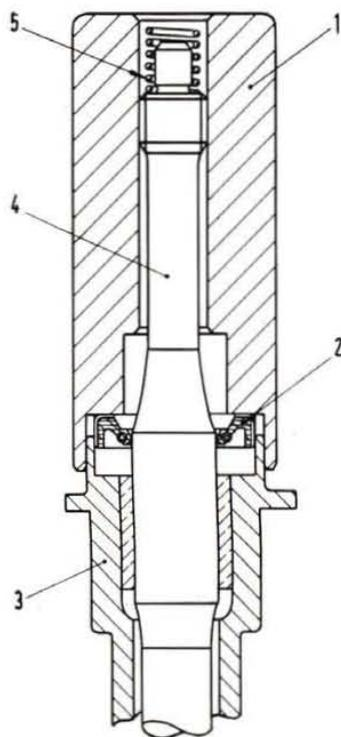

Fig. 595 - Oil seal in position on torque converter support.
- remove oil seal (2, fig. 595) using a screwdriver. Take care not to score the support;
- lubricate a new seal with oil. Insert oil seal in position on torque converter support using service tool A. 70141 (1, fig. 595);